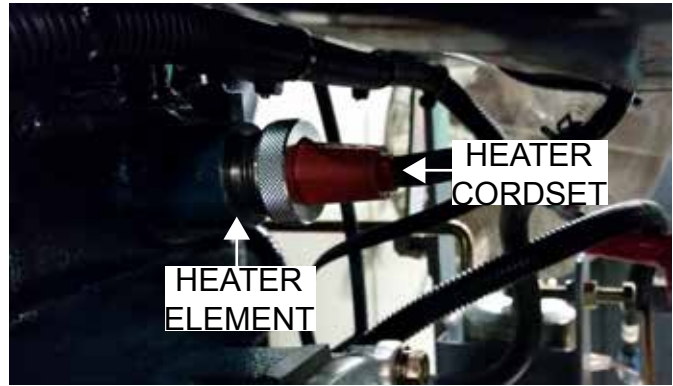

Figure 12. Cordset to Heater Element
7. Tighten and secure the heater element cordset (Figure 12) to the threaded end of the heater element.